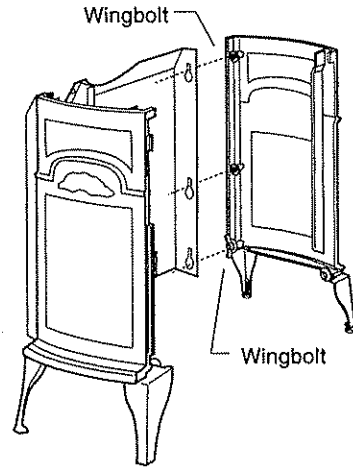
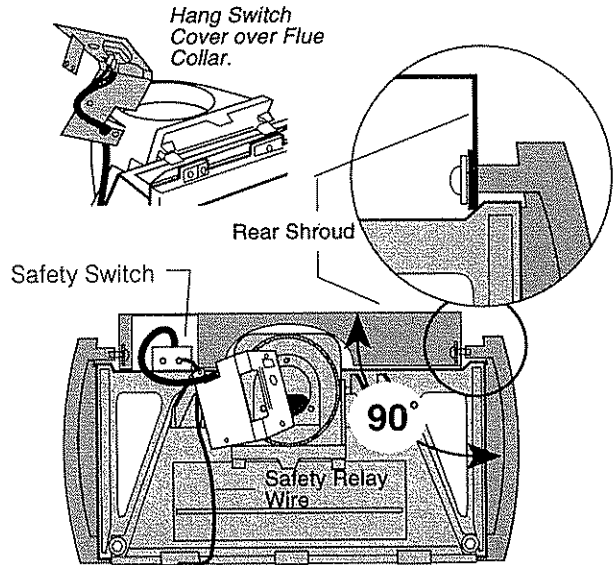
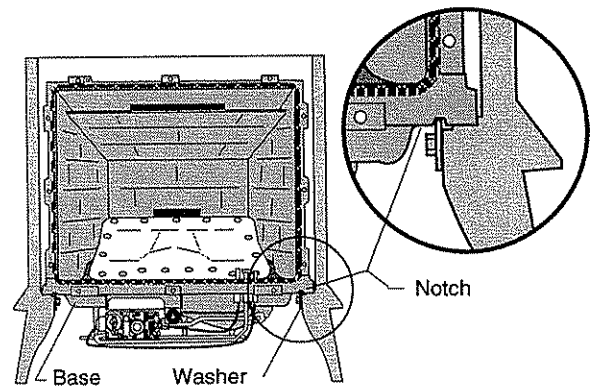

Figure 16. Secure Right End to the Rear Shroud.
Figure 17. Align both sides with the rear.
Figure 18. Install the Firebox Assembly. Be sure that the two large front washers engage the notches on both ends of the Base.
2. Repeat Step 1 to attach the Right Side Plate to the Rear Shroud. Fig. 16. Move this assembly close to the stove's final position. Align the two side plates to be perpendicular to the Back Panel as in Fig. 17.
3. Hang the Switch Cover over the flue collar rim, as in Fig.17, to keep it out of the way while installing the firebox. **DO NOT PULL ON THE SAFETY RELAY WIRE LOCATED OVER THE FIREBOX.** Lift the DV25 firebox assembly as a unit and slide it back to position it within the shell. The base of the firebox should rest on the side support shelves as in Figs.17 and 18. The large washer at the forward leg of each Side Plate should engage the corresponding notch in the underside of the firebox base as shown in Fig. 18. Properly positioned, the firebox will be level and locked in place. If not, adjust the levelling screw in the foot of each leg to keep the entire unit level.